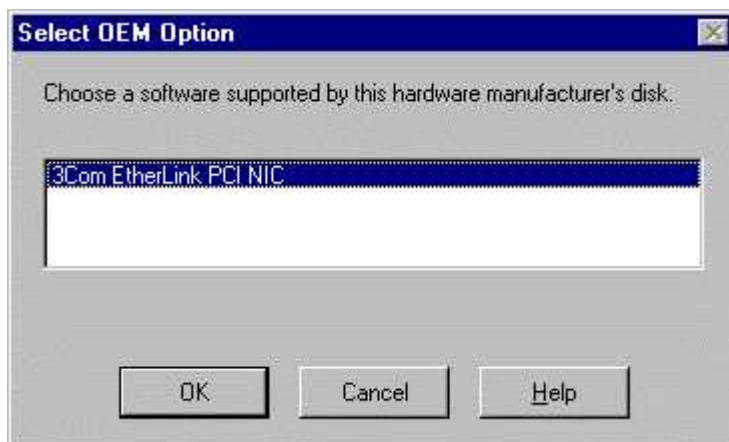

Fig. 8-7 Select OEM option
- In the "Select OEM Option" dialog box, select "3Com EtherLink PCI NIC" and confirm with "OK" (Fig. 8-7).